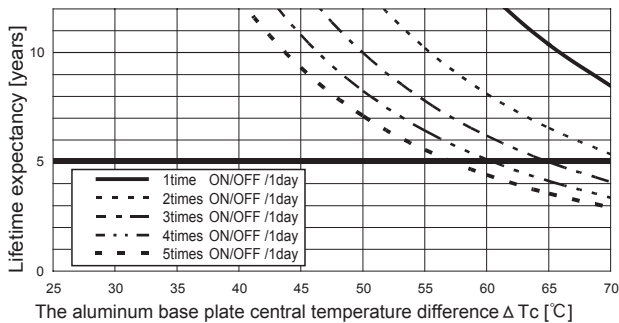

Fig.7.1 Lifetime expectancy against rise/fall temperature difference
■ Product lifetime expectancy depends on the aluminum base plate central temperature difference ( $\Delta T_c$ ) and number of cycling in a day is shown in Fig.7.1.